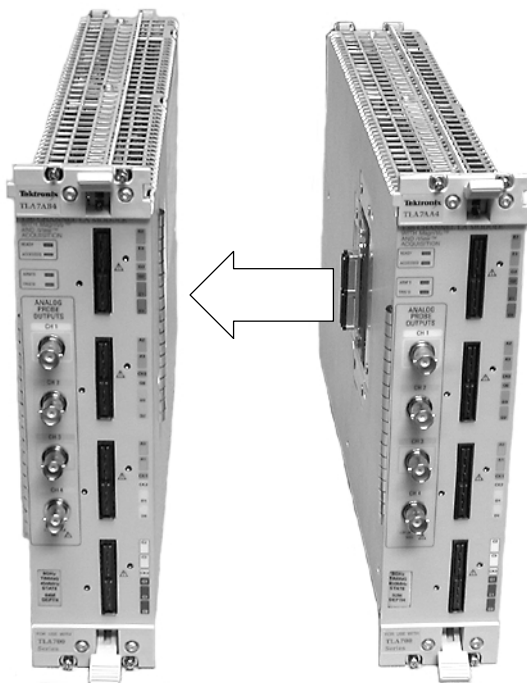

**Figure E-3: Connecting modules in a merged set**
6. Place the first pair of modules to be merged side-by-side such that the merge connector assemblies line up and connect between the two modules (see Figure E-3).